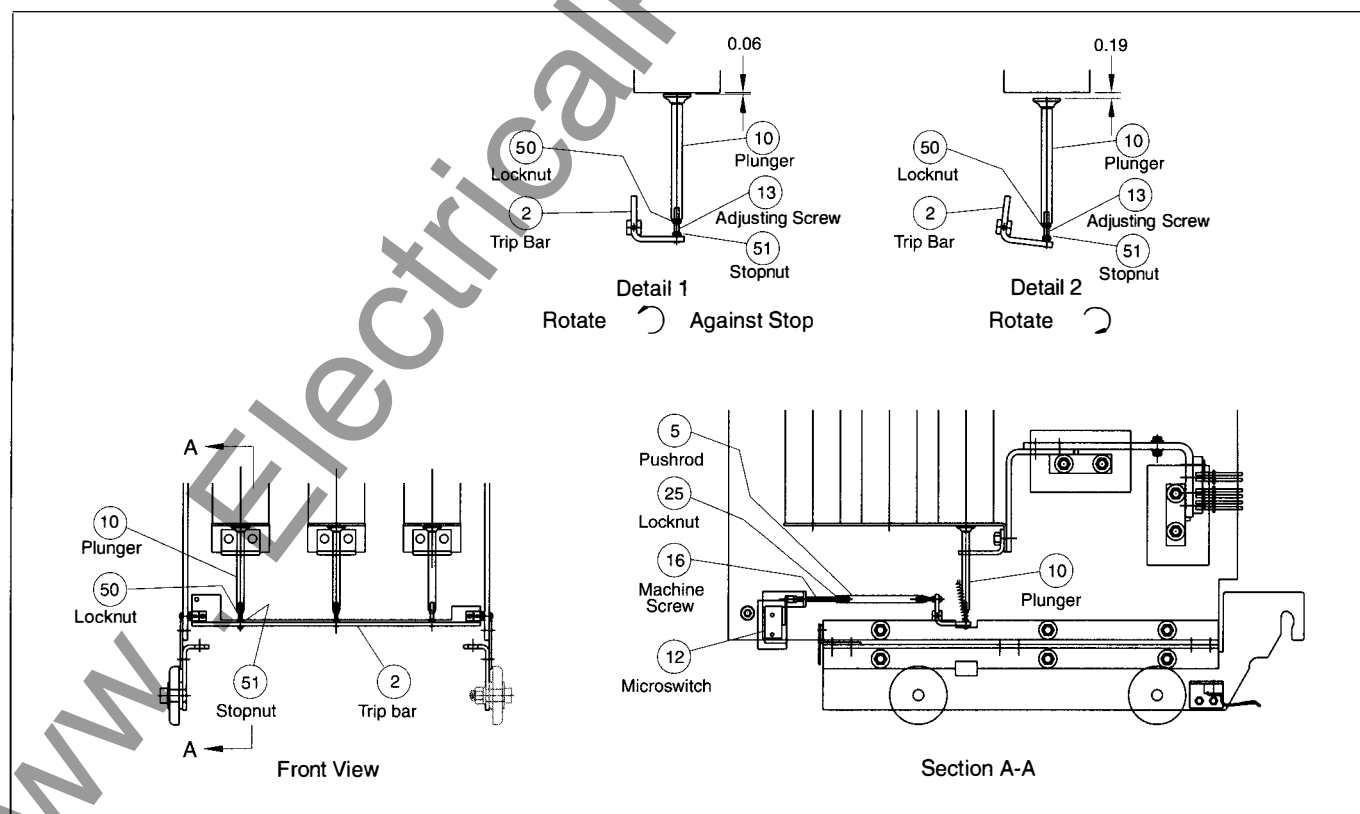

Figure 18. Adjustment of Blown Fuse Trip Mechanism
After the blown fuse trip mechanism has operated, or if any of the power fuses have been removed or replaced, the following checks and adjustments must be performed. Refer to **Figure 18**.
3. Adjust each of the three plunger assemblies shown in detail 1 of **Figure 18** to obtain a 0.06" (1.6mm) gap between the plunger (10) and the end of the corresponding fuse as follows: Insert a 0.06" (1.6mm) shim between the end of the fuse and the plunger (10). Loosen locknut (50) and turn adjusting screw (13) until there is no gap between stop nut (51) and trip bar (2). Retighten locknut (50).
4. Loosen the machine screw (16) which threads into the pushrod (5) and adjust outward (lengthen) until the microswitch (12) contacts just close. Then adjust outward (lengthen) one additional full turn and tighten the locknut (25).
5. Referring to detail 2 of **Figure 18**, insert a 0.19" (4.8mm) thick shim between one of the three plungers and its fuse, rotating the trip bar in the direction shown. The microswitch contacts should open at this point. If they do not, loosen the locknut and adjust the machine screw until the switch contacts open, then retighten the locknut (25).